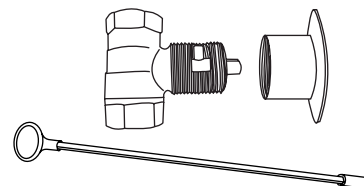
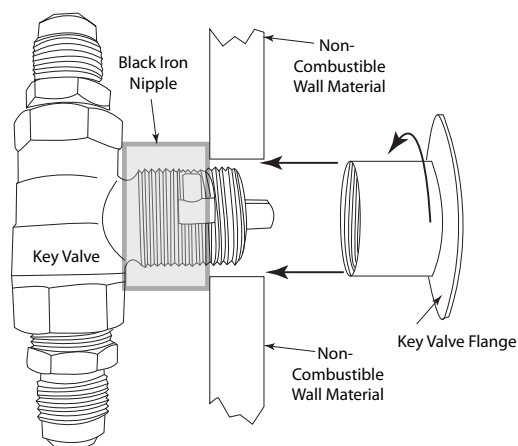

Fig. 6 Installing key valve assembly.
Fig. 7 Typical installation.
3. The primary gas shut-off (not supplied) will require a ⅜” male flared fitting to enable connection of the stainless steel flex gas line supplied with the fire pit (see Fig. 7 page 10).
The key valve contents: (1) key valve, (1) key and (1) flange. (See Fig 6). The valve requires a 1 ¼" round clearance hole in the non-combustible enclosure wall. See the instructions supplied with the key valve for more specific details. **Note:** Be sure to leak test all fitting before operation. Fig. 7 shows an example of a typical installation.
Low flame	<ol style="list-style-type: none">1. Ensure the base media is at least 1-inch in diameter and top media is no more than 1-inch over top of burner.2. Ensure all shut-off valves and key valve is fully open (see page 9; Fig. 6).3. Check gas pressure.